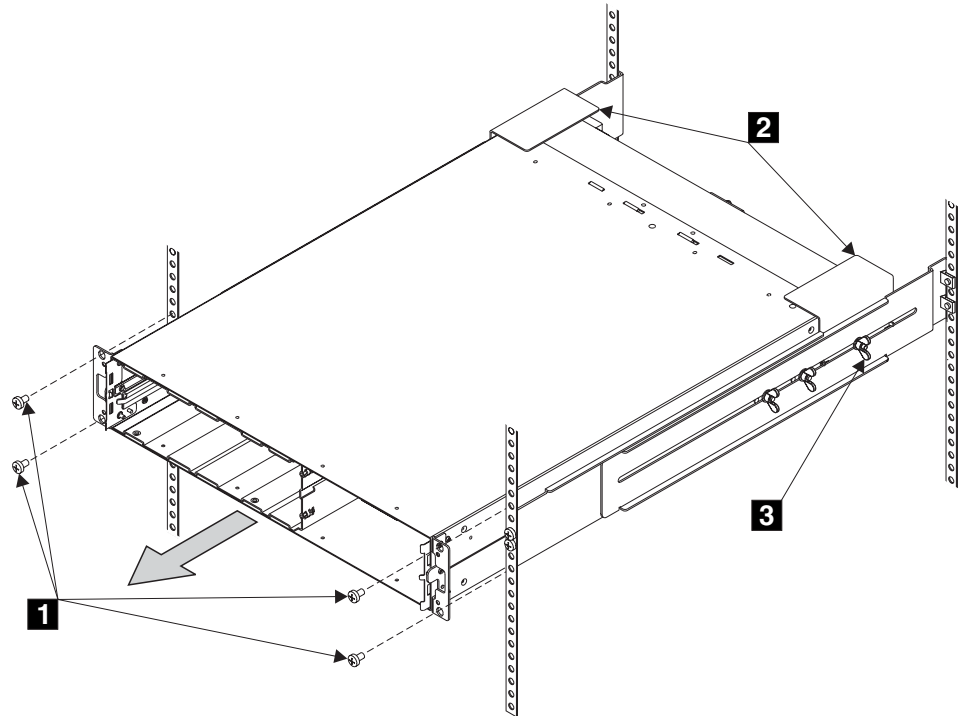

Figure 61. Removing the uninterruptible power supply 5125
7. At the front of the UPS 5125, unscrew the mounting screws, **1** in Figure 61.